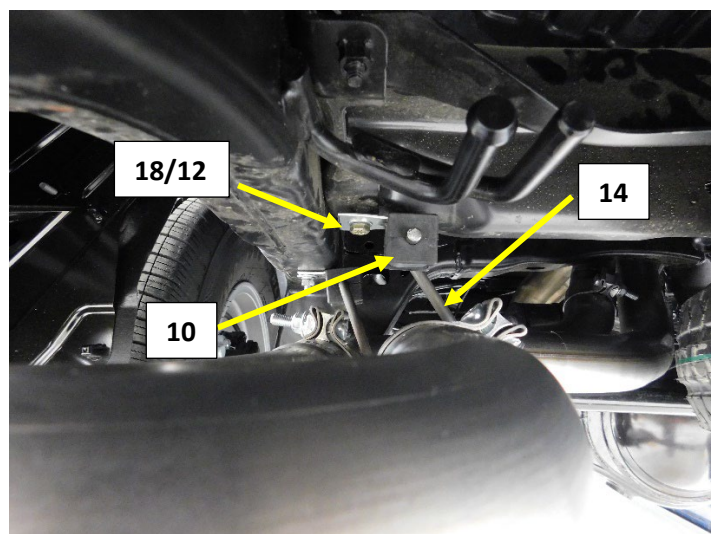

Figure.17
15. Install a supplied tail pipe frame hanger (10) on to the right tail pipe hanger rod (14). Rotate the tail pipe up and position the frame hanger (10) at the left forward spare tire mounting bolt location that had the bolt removed in step.5. **Fig.17**
17. Install the M8 bolt (18) and flat washer (12) into the frame hanger and into the threaded insert. Tighten the bolt. **Fig.17**